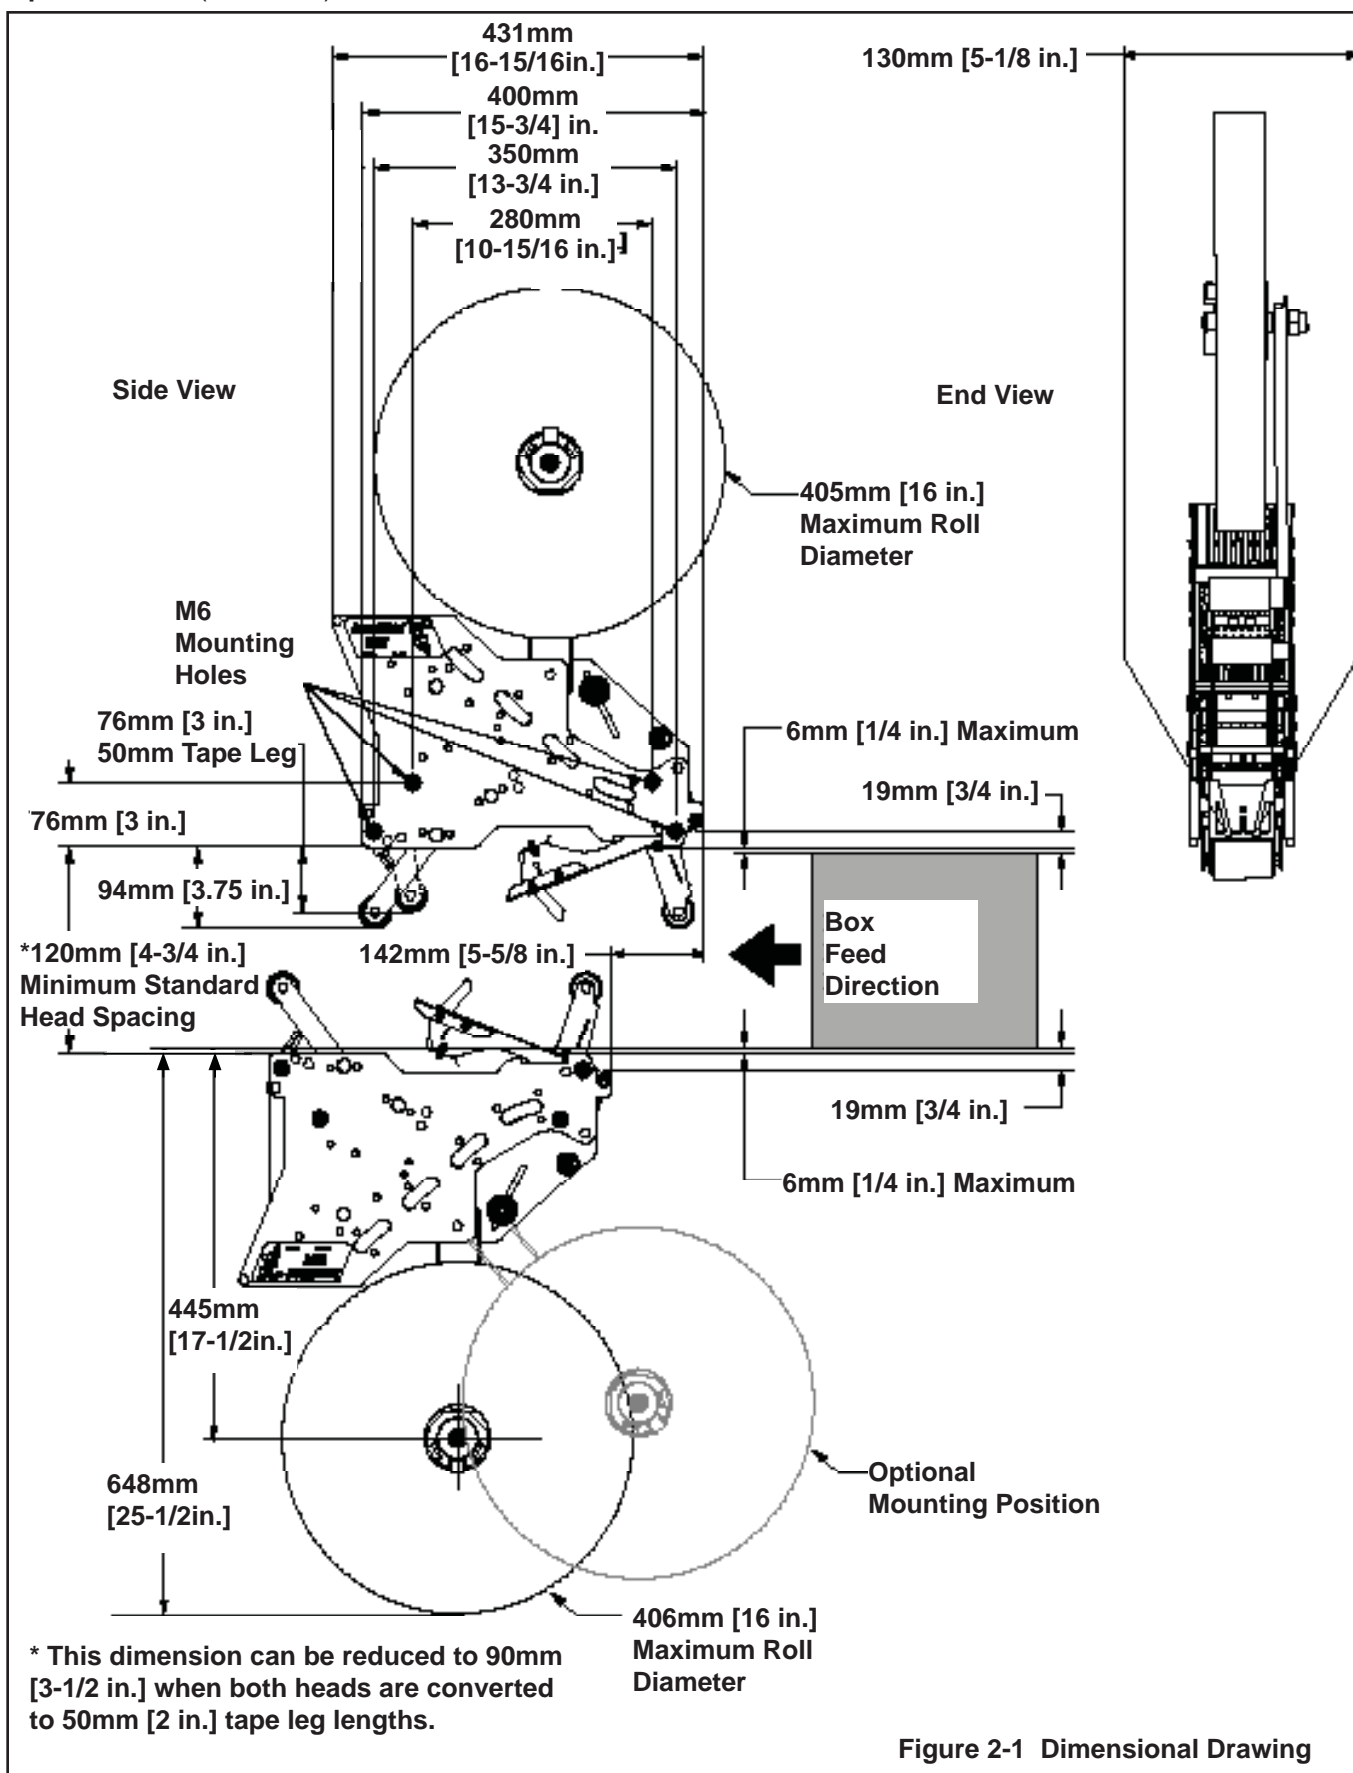

Figure 2-1 Dimensional Drawing
The taping head assembly can be used in converting existing or in custom made machinery. It can be mounted for top taping or bottom taping. Refer to "Box Size Capacities," as well as **Figure 2-1** in the Specifications section, for the following points in making such installations:
3. **Figure 2-1** illustrates the typical mounting relationship for opposing taping head assemblies to allow taping of box heights down to 90mm [3-1/2 inches]. To tape box heights down to 70mm [2-3/4 inches], the taping heads must be completely staggered so only one tape seal is being applied at one time.